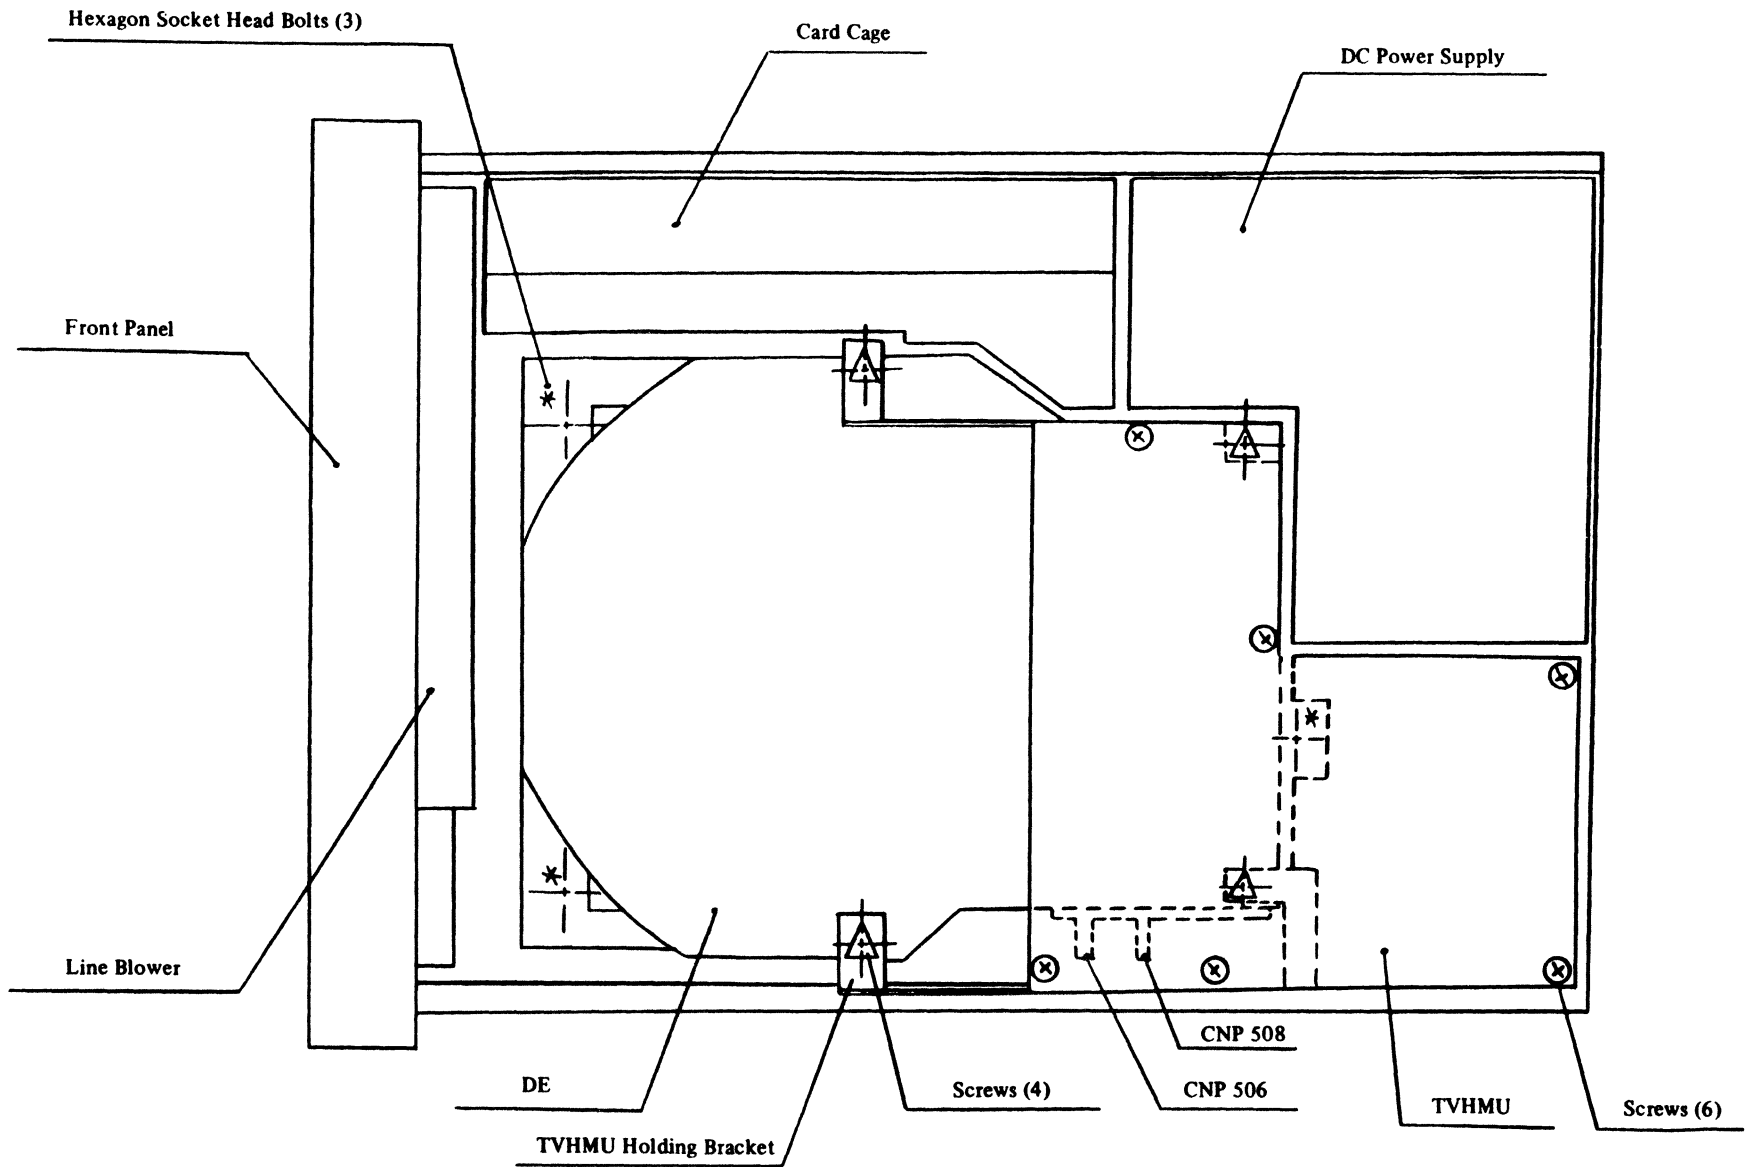

Figure 13.2-1 DE Replacement (Top View) Early version
4. Remove the 6 screws (Refer to Figure 13.2-1 ) holding the TVHMu PCB and remove the entire TVHMu PCB.
5. Remove the 4 screws (Refer to Figure 13.2-1 ) holding the TVHMu mounting bracket.
10. Remove the three hexagon socket-head bolts (Refer to Figure 13.2-1, *) from the shock mounts.
4. Remove the screw (Refer to Figure 13.2-1) and the wire.
9. Remove the three hexagon socket-head bolts (Refer to Figure 13.2-1, *) from the shock mounts.